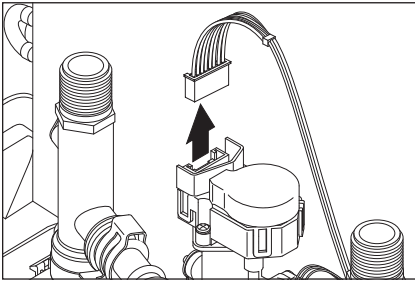

Figure 123 - Disconnecting 8 Pin Wire Harness
- 12** Disconnect the 8 pin wire harness located on top of Smart Valve as shown in Figure 123. Place wires aside in a safe location so they are not damaged.